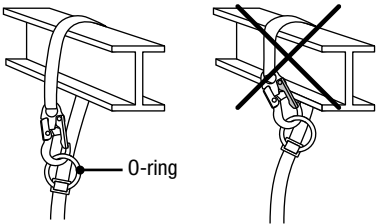

Fig. 5
3.7.1 Degil tie-back lanyards, when identified accordingly, are made with a self-locking snap hook which attaches back to an O-ring to allow greater adjustment (*Figure 5*). The O-ring must be positioned below the anchor point to prevent the gate of the self-locking snap hook from being cross-loaded on the anchor point.
Do not allow the connector to come into contact with the anchorage point, beam, tube, etc. (*Figure 5*).
- a connector connected back on its own, unless manufactured as a tie-back lanyard (Figure 5, page E9);